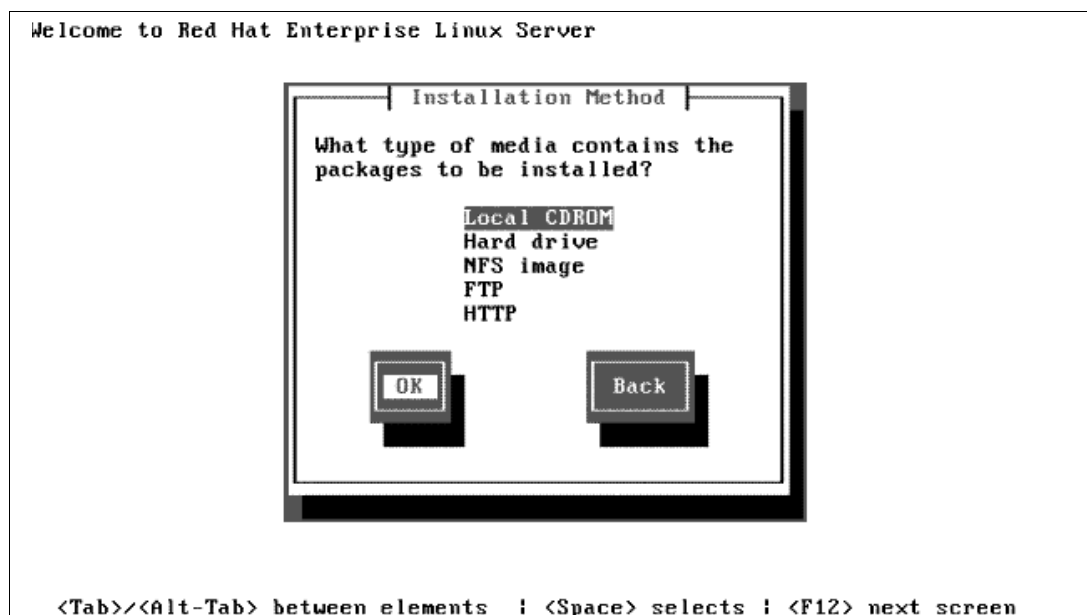

Figure 5-109 Select Installation Media
4. After selecting the *language* and *keyboard type*, select the installation media. In our case, we select *CDROM* as the installation media, as shown in Figure 5-109.